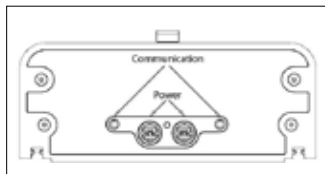

Figure 3: Control and power ports
4. Attach the controller and communication cable(s) to the fixture(s). (*see figure 3*). The communication for the lights daisy chain together. **Each fixture has a unique serial number. When connecting fixtures, connect in ascending serial number order.**
5. Plug in power supply(s) to the light fixture(s). Each fixture has a power input and output. Use the supplied power cables to connect two fixtures together (*see figure 3*).